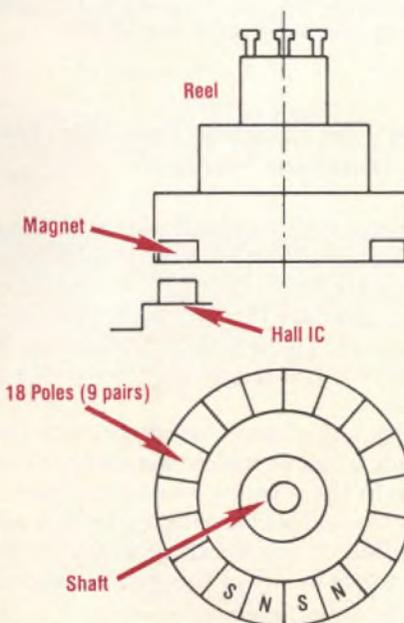

Fig. 4: The alternate changing of the magnetic poles in this type reel sensor causes the voltage from the hall-effect IC to turn on and off as the reel turns.
**Hall-effect** sensors are often found in the servo circuits and are sometimes used for takeup reel sensor (Figure 3). A hall-effect sensor consists of a small sheet of semiconductor material. A voltage is applied across the sheet and a constant bias current flows. There are plates on two other sides of the semiconductor material. In the absence of a magnetic field, no voltage exists across these plates. When a magnetic field is applied at right angles to the plate, a current is produced inside the semiconductor material that then appears as a voltage difference on the plates. A hall-effect sensor must have a voltage source to work. In addition, the magnetic field must be correctly oriented with the sensor. In the case of a takeup reel sensor, a magnet rotates with the takeup reel and allows current to flow through the sensor when the magnet comes in close contact with the sensor as shown in Figure 4. ■